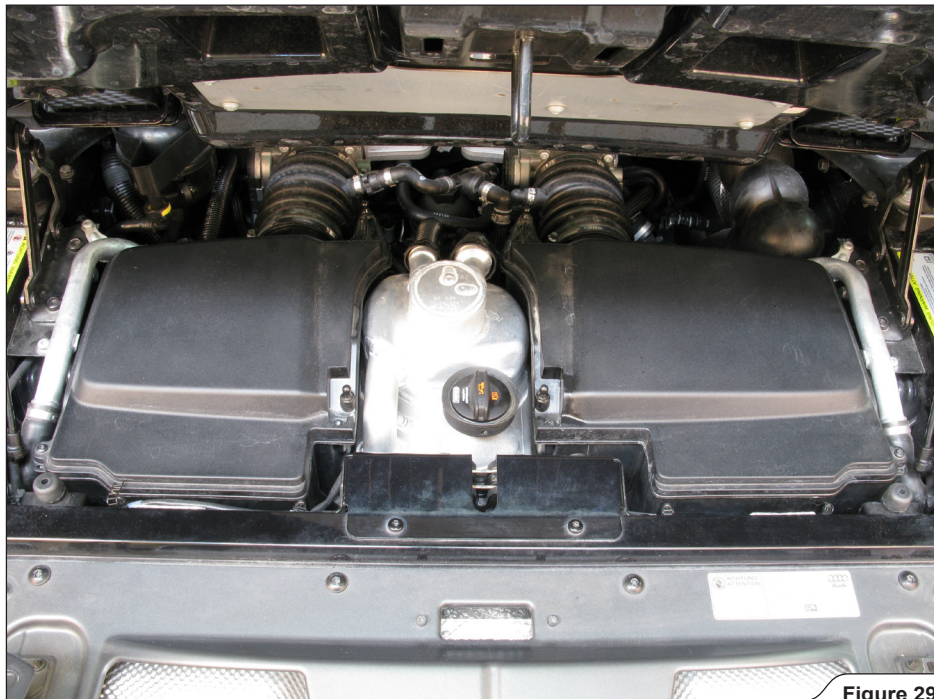

Figure 29
21. **For R8 FL model only:** carefully dismount both air boxes and unscrew the muffler's connection clamps on both sides of the engine (**Figure 29, 30**).